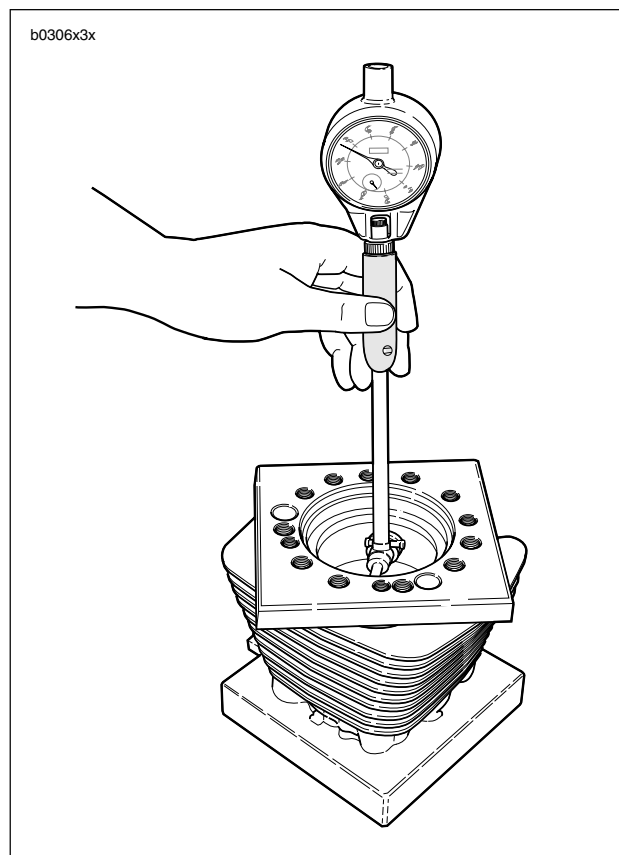

Figure 3-34. Measuring Cylinder Bore Using Torque Plates (Part No. HD-33446A)
2. See Figure 3-34. Install a head and base gasket, and CYLINDER TORQUE PLATES (Part No. HD-33446A) and XL EVOLUTION TORQUE PLATE BOLTS (Part No. HD-33446-86). Tighten the bolts using the same method used when installing the cylinder head screws. See 3.5 CYLINDER HEAD.